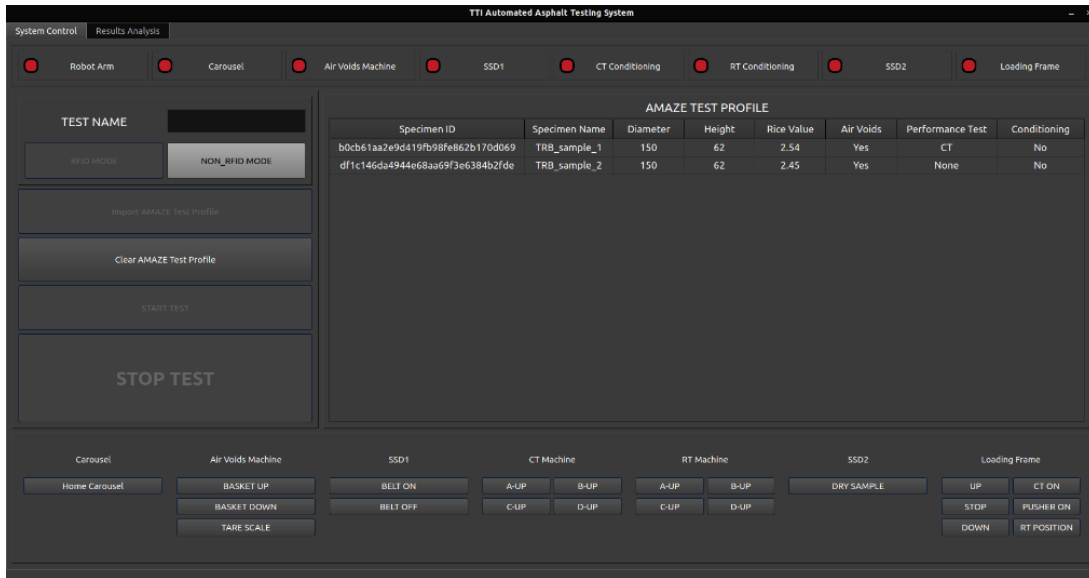

Figure 24. Importing Test Profile
2. **Import the AMAZE Test Profile File.** Within the GUI, click on the “Import AMAZE Test Profile” button. Select the test profile file previously created using the AMAZE registrar software. This file contains all the necessary configurations and specimen details for the test. Figure 24 shows the testing profile after importing the file.